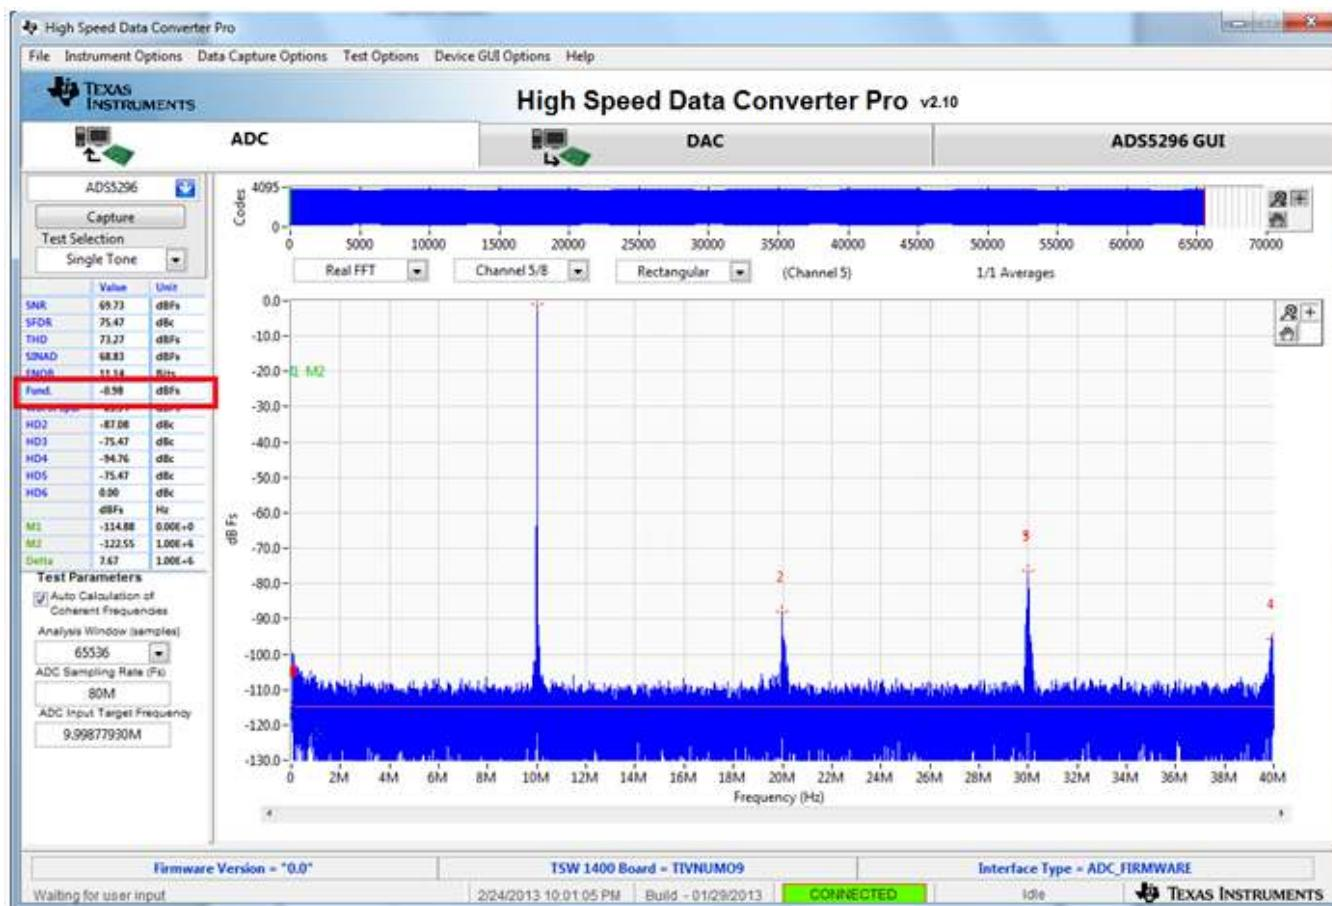
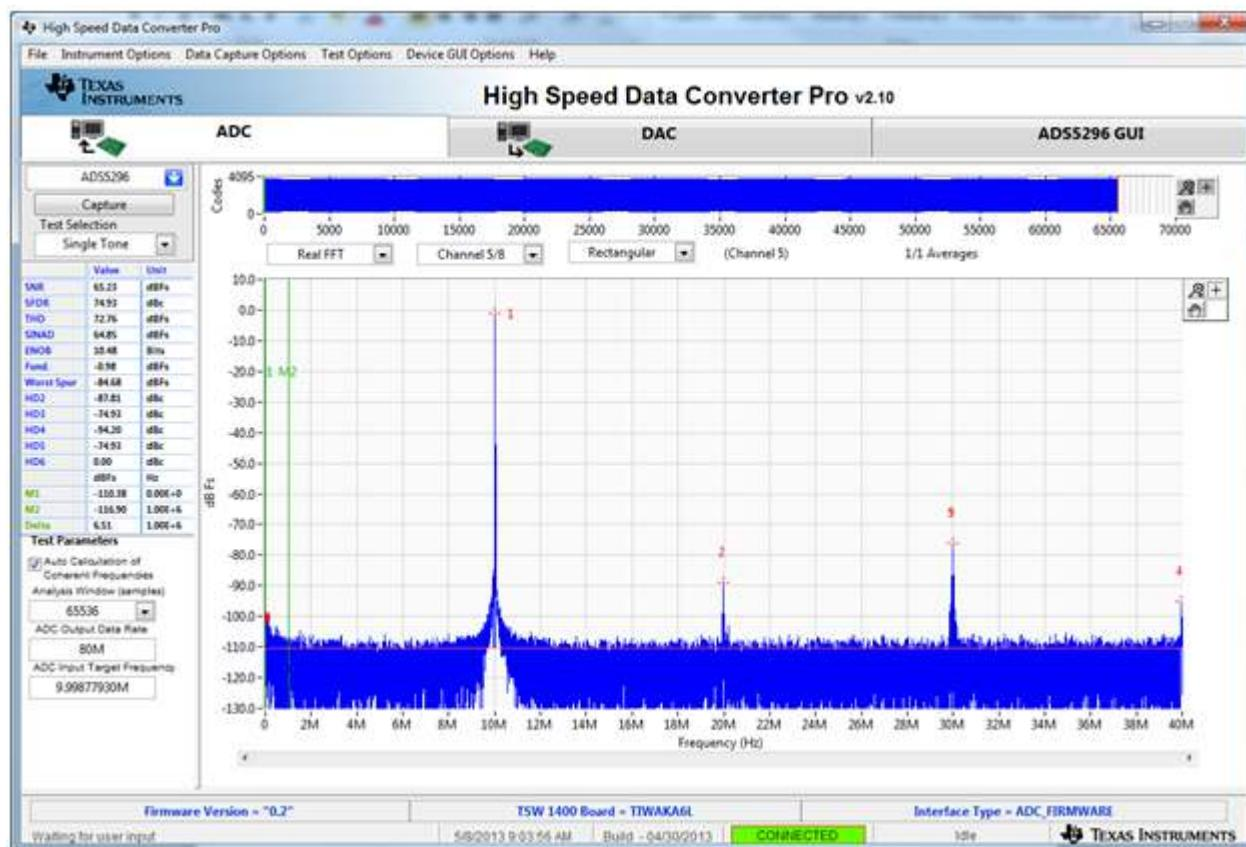
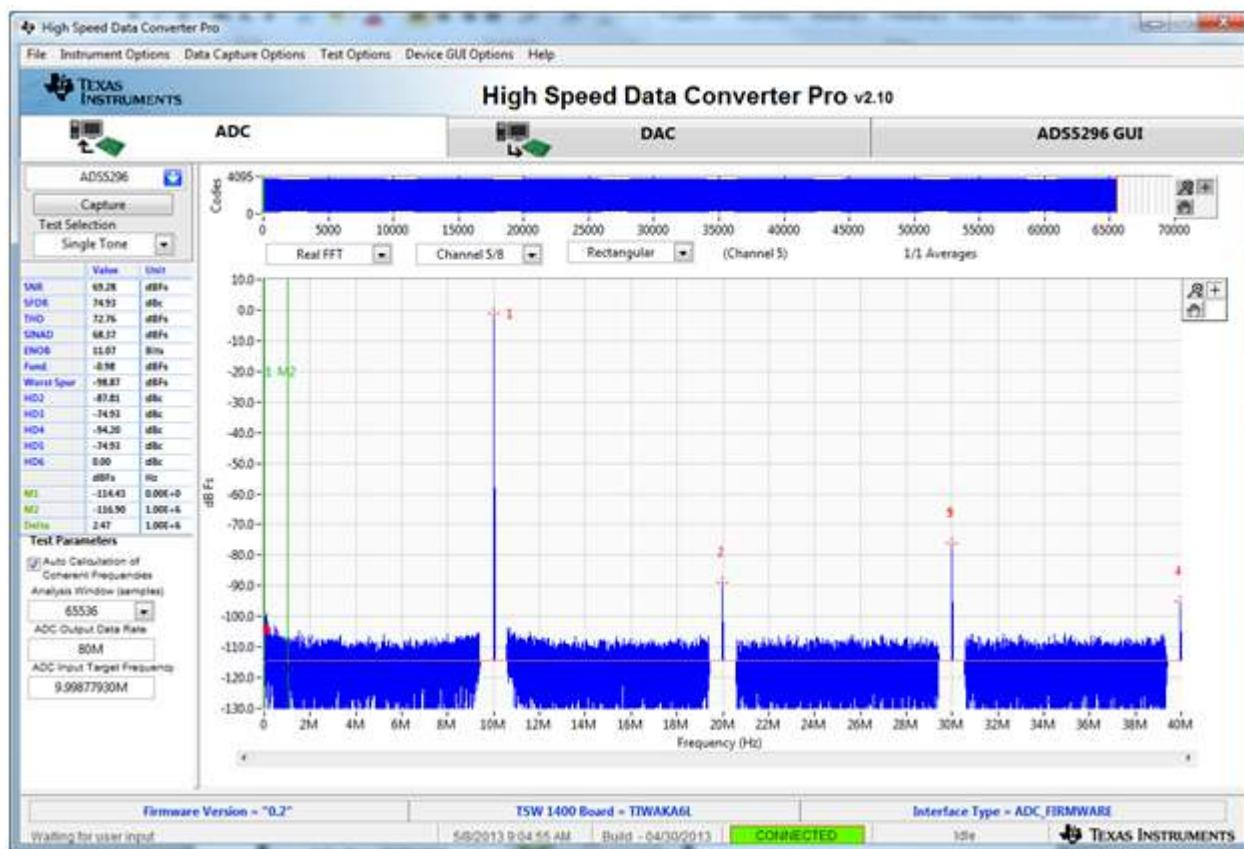

Figure 42. Octal Non-Interleaving Mode Capture 2
Figure 43. Octal Non-Interleaving Mode Capture 3
Figure 46. HSDCpro Capture with Software Filtering
6. After re-capturing, the *Fund.* value is now closer to -1.0 dBFS as shown in Figure 42.
The SNR computed is highly dependent on the phase noise of the input signal source. Figure 42 and Figure 43 are with the exact same configuration, the only difference being the instrument used to provide the 10-MHz input signal. A 4.5 dB difference in the computed SNR is observed and is attributed solely to the integrity of the input signal, specifically the close-in phase noise.
The plot and all calculations will be updated accounting for these removed bins as shown in Figure 46. The SNR is now very close to the Software Filtering Menu SNR shown in Figure 43 using a superior instrument.